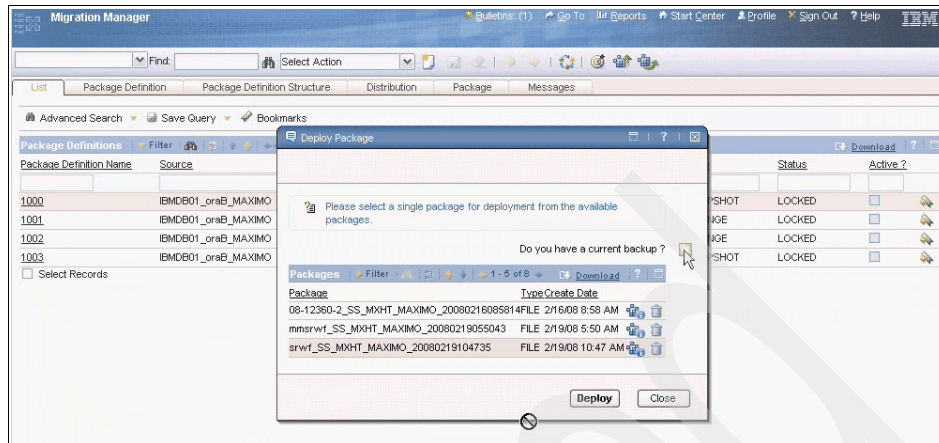

Figure 8-51 Predeployment backup
8. For safety and regulation compliancy, a check box is provided in the Deploy Package dialog box, prompting you to verify and register whether a recent backup has been made (see Figure 8-51 on page 230). It is important to have a recent (and possibly validated) backup of the entire environment. At the least, a backup of all database content is required, but if you also deploy compiled sources a file backup of the target application server is also necessary.